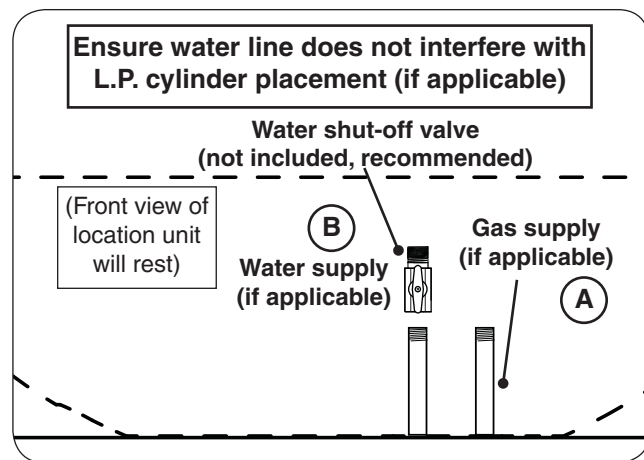

Fig. 22-1 Route gas and water supply (if applicable)
1. Route the gas supply into the area that the unit will rest over (see Fig. 22-1, A).
1. Plumb the water supply into the area that the unit will rest over (see Fig. 22-1, B).
Note: It is recommended that a water shut-off valve (not included) be attached to the water supply line. It can be installed remotely or at the end of the water supply line. See Fig. 22-1, B for an example.